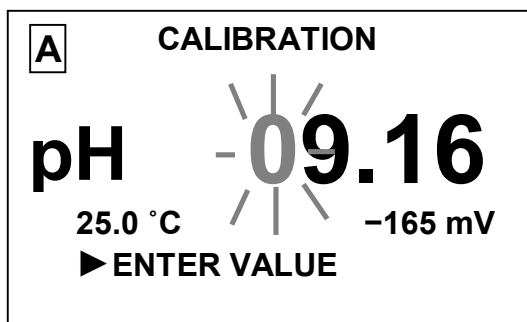

Figure 2.22
- 4 After the display settles down, press the “menu” button. The screen as shown in Fig.2.22 will appear, with the initial digit flashing.